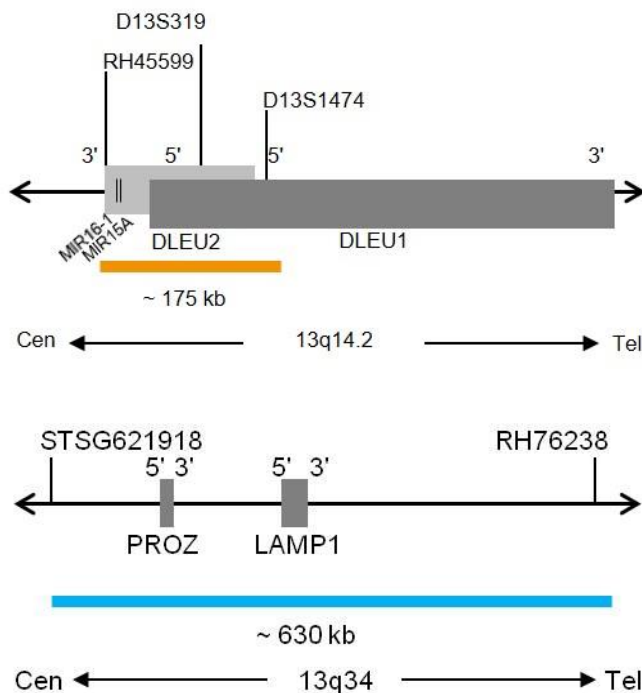

Fig. 1: Top: SPEC D13S319 Probe map, Bottom: 13q34 Probe Map (not to scale)
- ZyOrange (excitation 547 nm/emission 572 nm) labeled polynucleotides (~4.5 ng/μl), which target sequences mapping in 13q14.2\* (chr13:50,607,438-50,781,256) harboring the D13S319 locus (see Fig. 1).
- ZyBlue (excitation at 418 nm and emission 467 nm) labeled polynucleotides (~37 ng/μl), which target sequences mapping in 13q34\* (chr13:113,691,216-114,323,467) harboring the Lamp1 gene region (see Fig. 1).